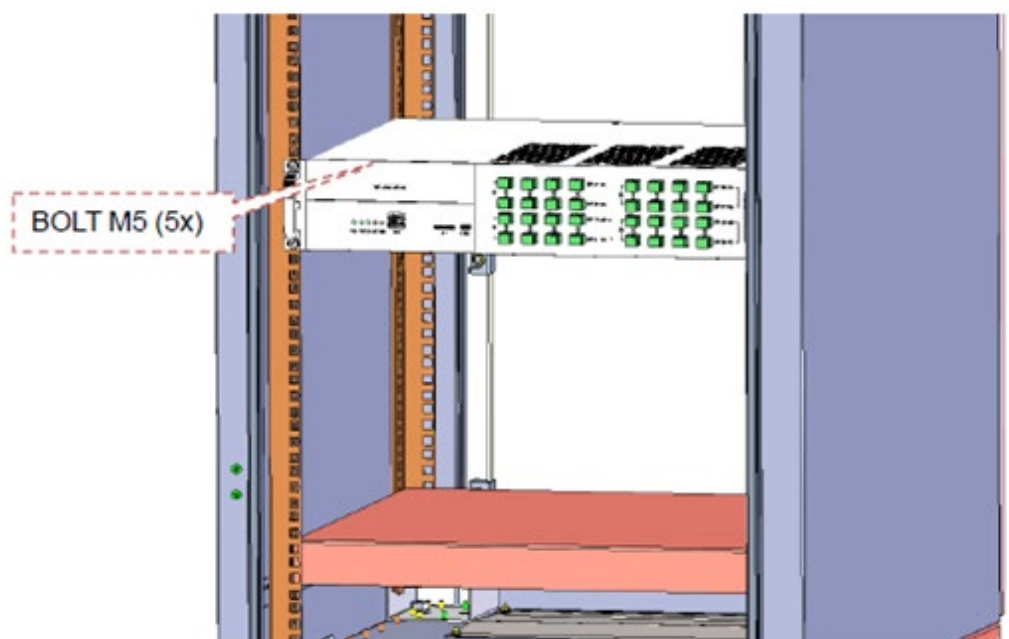

Figure 3-4 Use screw to mount IM2U
3. Use screw to mount IM2U, as shown in Figure 3-4.